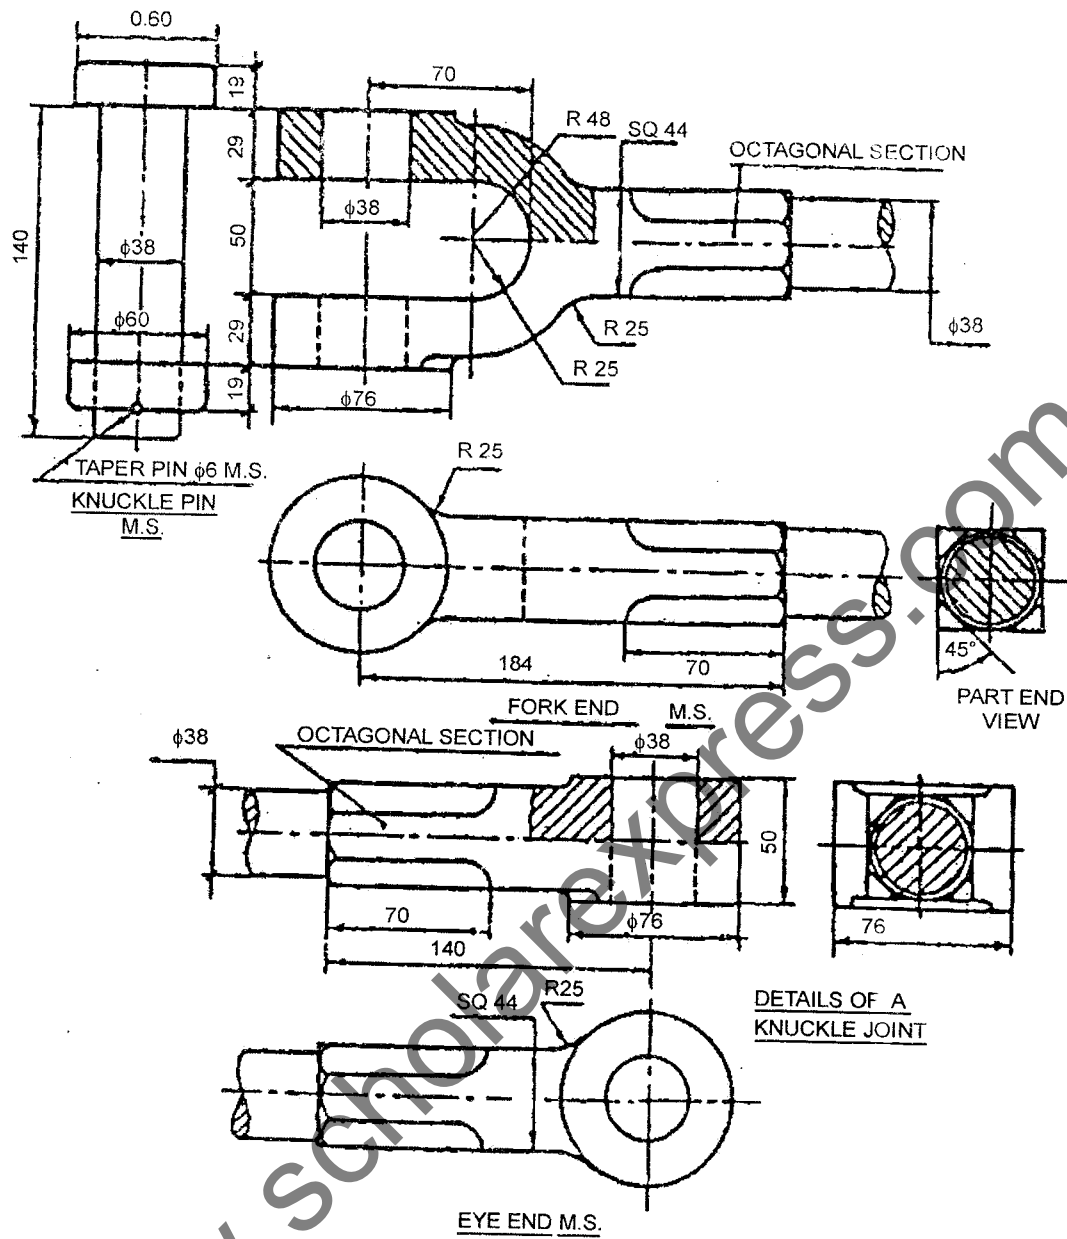

Fig. 2
8. Figure 2 shows the detail of knuckle joint. Assemble the given components and draw the front view and top view of assembly.